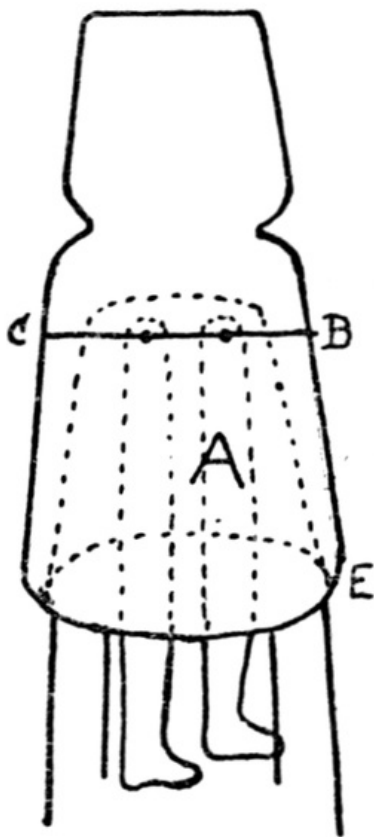

FIG. 168
Shape a cork as in Fig. 168 and hollow out the centre (A). Cut out arms and legs of thin cardboard. Fasten the legs to a piece of wire passing through the hollow in the cork (B C in Fig. 168), so that they hang loosely. Fasten the arms to the shoulders with wire. Make four tiny holes in the bottom rim, E, with a pin; get some stiff bristles (from an old clothes brush), glue them into the holes and when firm cut them level, so that the figure stands upright, with the feet a little above the ground. A head is then made of cork, and a little dress and bonnet of paper added. This little figure, resting on the bristles, is affected by the slightest